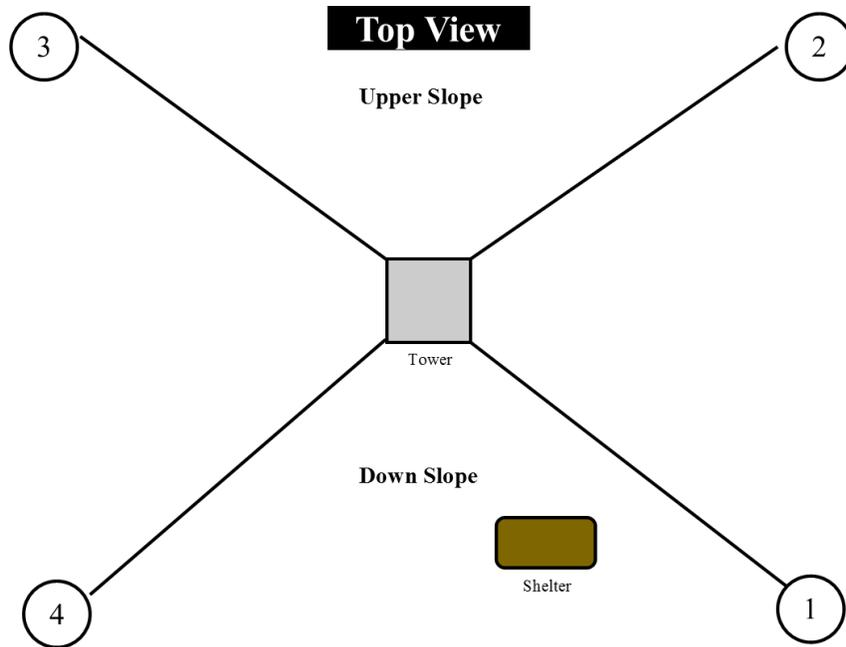

Figure 4. Top view of the forest canopy tower. This view shows the four cable bases.
2. The cables should be tensioned in pairs, with one person on the cable on the down slope side and the other person on the upper slope. The cables at 1 and 2 should be done at the same time and the cables at 3 and 4 should be done at the same time (Figure 4).